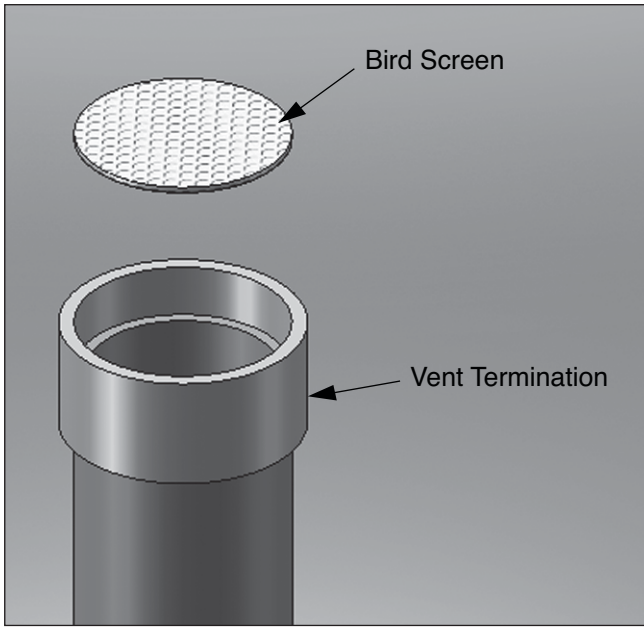
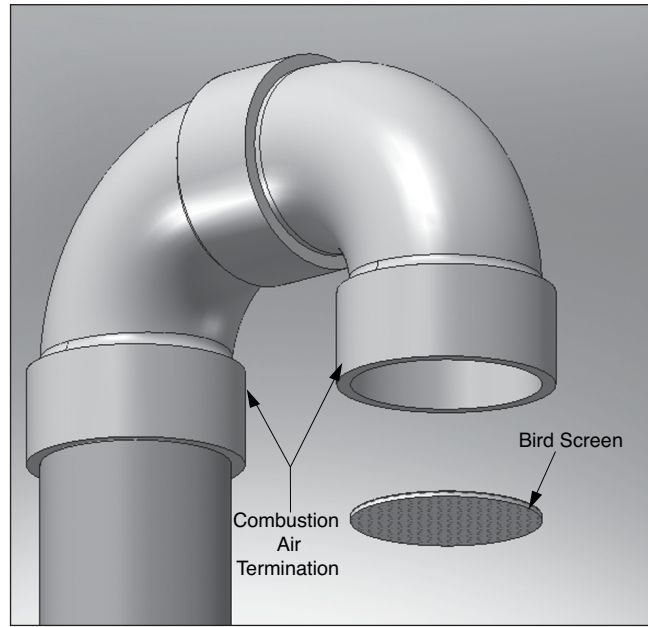

Fig. 3 - Vertical Vent Bird Screen Installation
Fig. 4 - Vertical Combustion Air Bird Screen Installation
1. The vent and combustion air terminations must include a factory supplied "bird screen" installed as shown in *Fig. 3* and *Fig. 4* on page 10